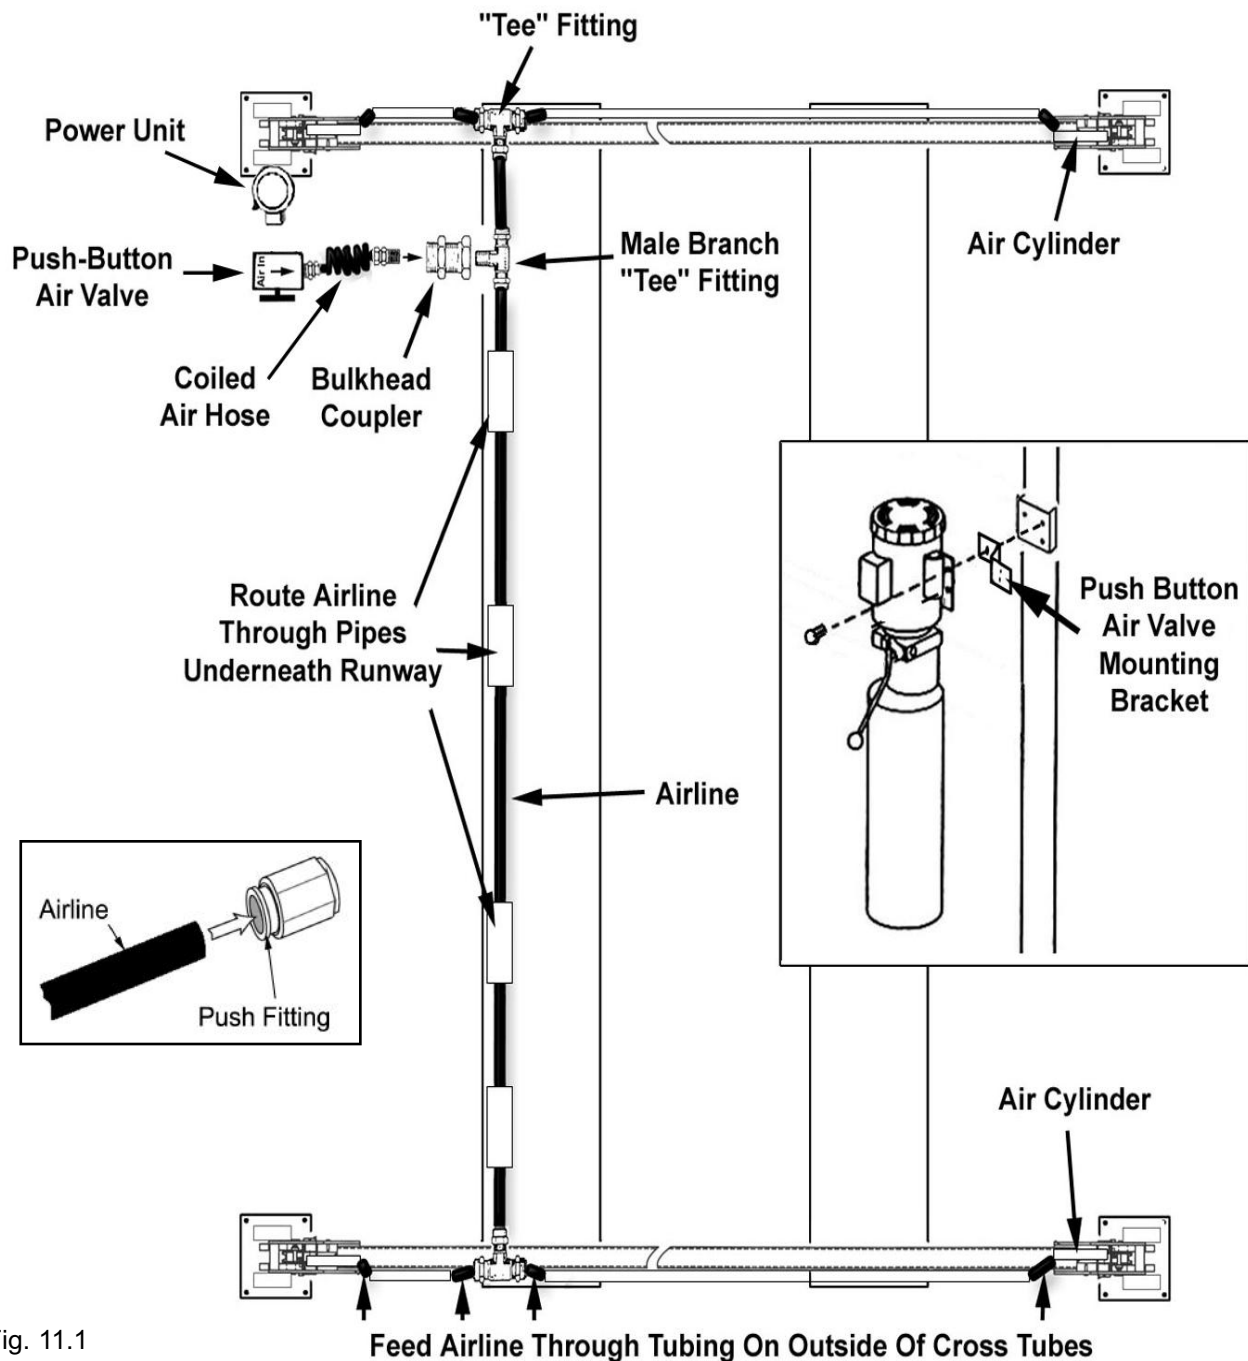

Fig. 11.1
**AIR PRESSURE SHOULD BE REGULATED TO 125 PSI MAX.** (See Fig. 11.1 )